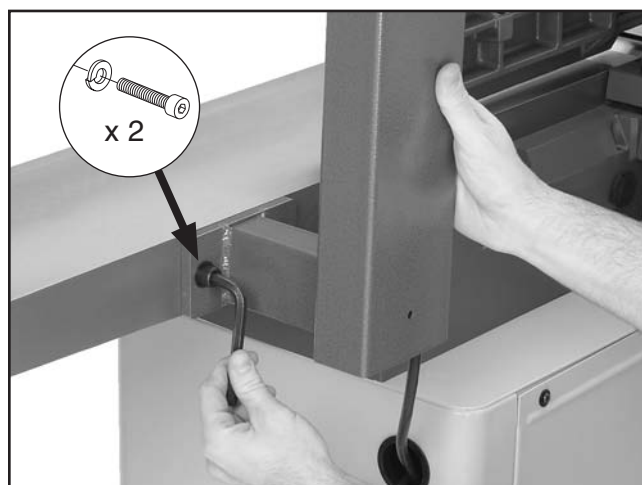

Figure 12. Installing control panel pedestal.
16. Use the hardware removed in **Step 3**, to attach the control panel pedestal to the back of the infeed table, as shown in **Figure 12**.